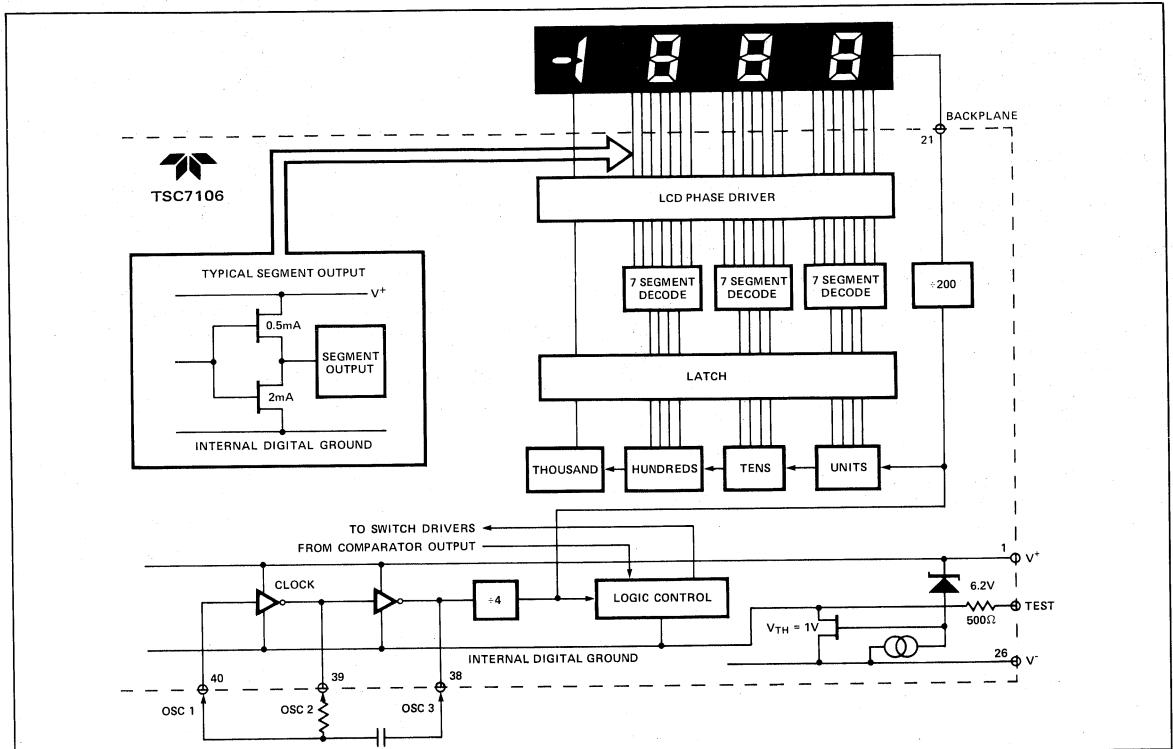

Figure 8: TSC7106 Digital Section
Figures 8 and 9 show the digital section for the TSC7106 and TSC7107, respectively. In the TSC7106 (Figure 8), an internal digital ground is generated from a 6 volt Zener diode and a large P channel source follower. This supply is made stiff to absorb the large capacitive currents when the back plane (BP) voltage is switched. The BP frequency is the clock frequency divided by 800. For three readings/second this is a 60 Hz square wave with a nominal amplitude of 5 volts. The segments are driven at the same frequency and amplitude and are in phase with BP when OFF, but out of phase when ON. In all cases, negligible dc voltage exists across the segments.